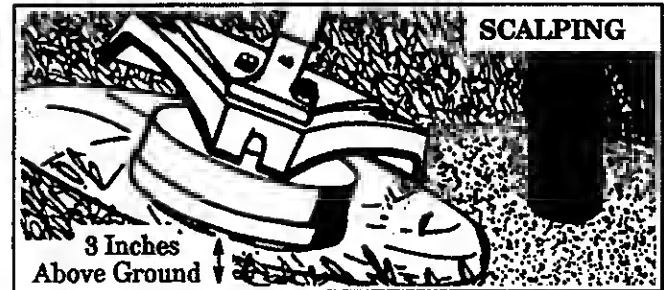

Figure 18
2. **SCALPING** - FIGURE 18 . The scalping technique removes unwanted vegetation. Hold the bottom of the trimmer head about 3 inches above the ground and at an angle. Allow the tip of the line to strike the ground around trees, posts, monuments, etc. *This technique increases line wear.*